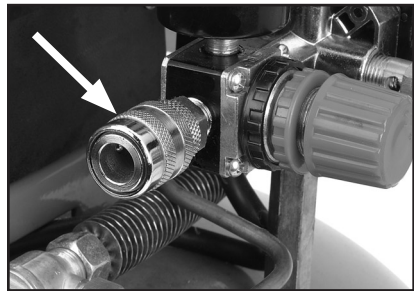

Figure 9. Quick connect coupler.
3. Connect an air line with a 1/4" NPT plug to the quick-connect coupler on the air compressor shown in **Figure 9**.